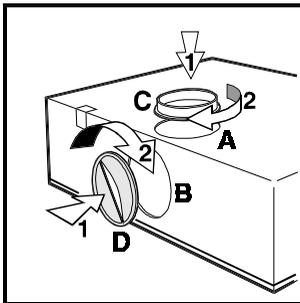

Fig. 1
- To connect up the hose, you should first fit the bayonet-mounting flange **C** (\varnothing 120 mm) on the outlet required (if using the top outlet, fix the flange in place using the screw supplied as shown in **Fig. 1**). Close off the unused hole using the bayonet fitting caps **D**.